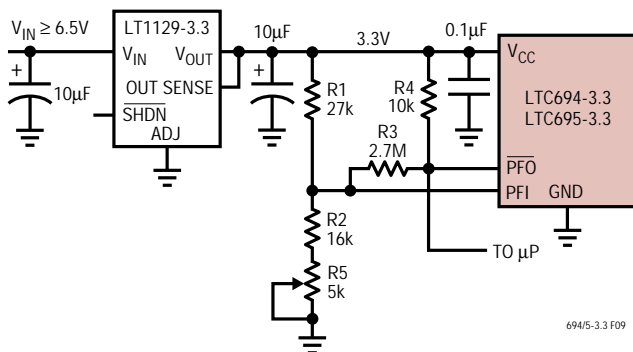

Figure 9. Monitoring *Regulated* DC Supply with the LTC694-3.3/LTC695-3.3's Power-Fail Comparator
**Example 2:** The circuit in Figure 9 can be used to measure the regulated 3.3V supply to provide early warning of power failure. Because of variations in the PFI threshold, this circuit requires adjustment to ensure the PFI comparator trips before the reset threshold is reached. Adjust R5 such that the  $\overline{PFO}$  output goes low when the  $V_{CC}$  supply reaches the desired level (e.g., 3.1V).